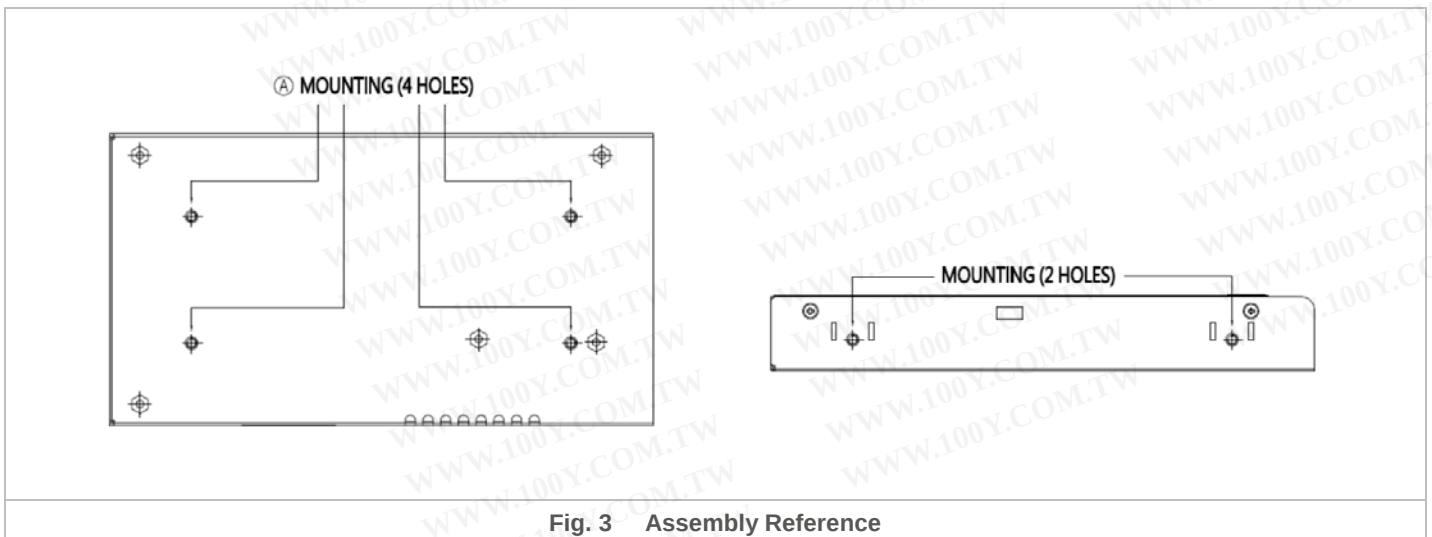

Fig. 3 Assembly Reference
- Ⓐ Base Mounting: Fig.3 shows the mounting hole locations for power supply assembly onto a metal mounting surface.
- Use flexible cable (stranded or solid) of AWG No.18-12. User should calculate and select the suitable wire specification (type/quantity/diameter) according to actual output current. The torque at the Connector shall not exceed 8Kgf.cm. (6.94 lbf.in). The insulation stripping length should not exceed 0.275" or 7mm. (Refer to Fig. 3).